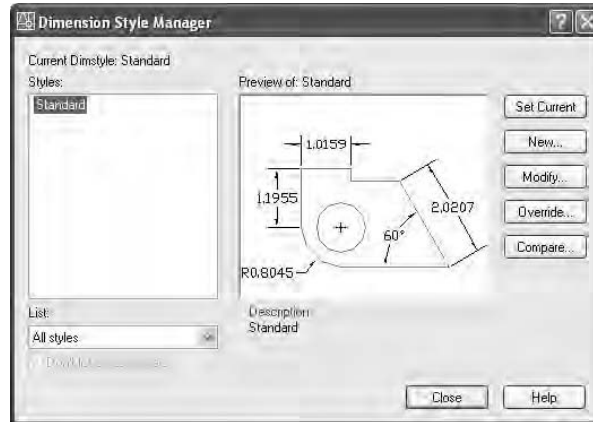

FIGURE 11.3: The Dimension Style Manager dialog box
1. Click the Dimension Style button on the right end of the Dimension toolbar to open the Dimension Style Manager dialog box (see Figure 11.3). On the top left in the Styles list box, Standard is listed.